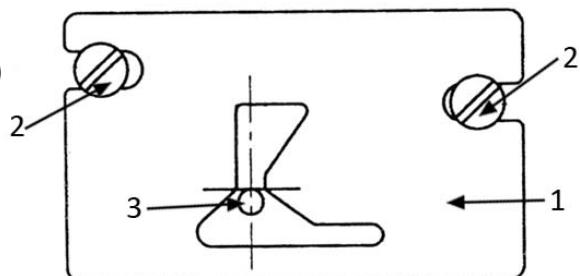

Fig. 24
- Remove the needle plate, loosen screws (2) of a base (1), Fig. 24.
- Set the position of base towards the the needle (3), as same as in the Figure, tighten screws (2).